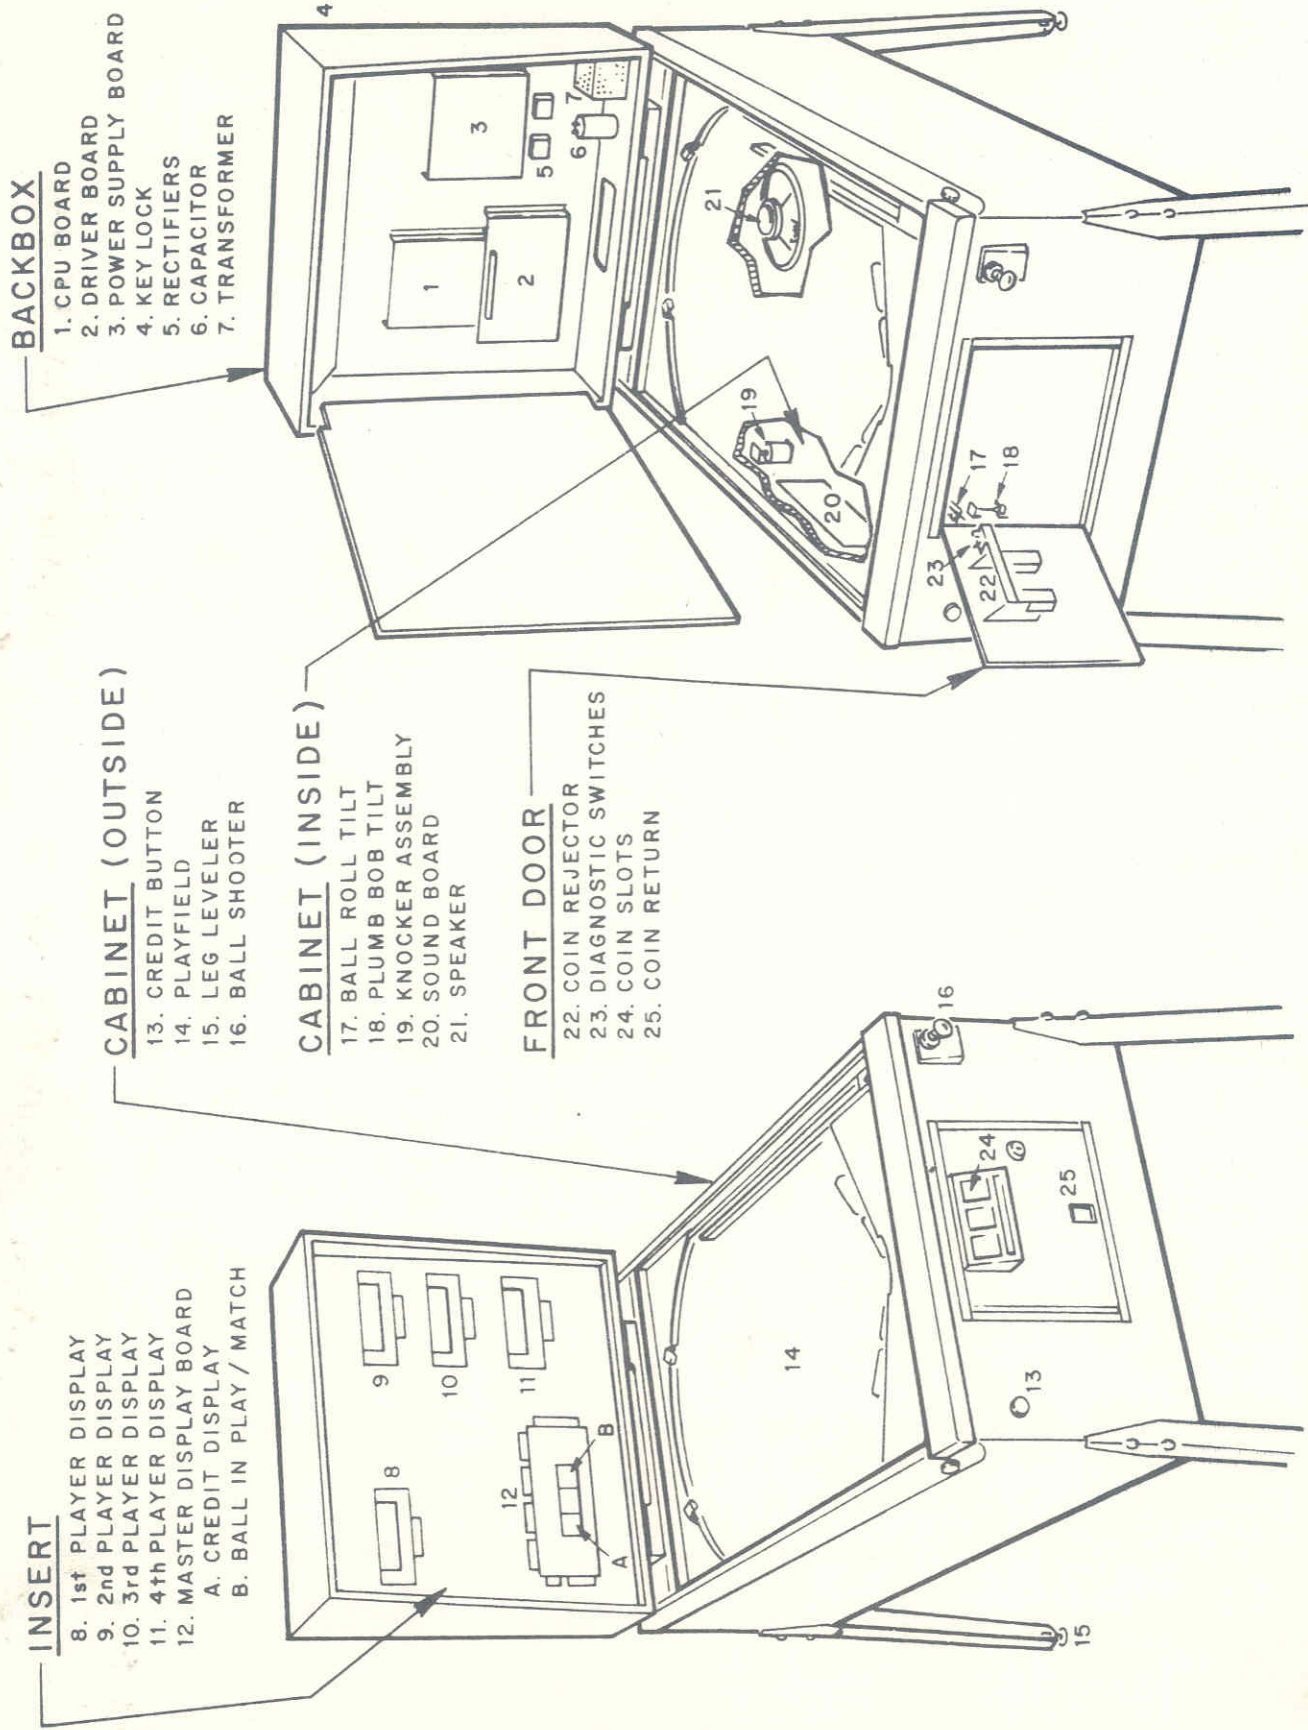

Figure 2. Location of Major Assemblies
2. Push on all connectors attached to the CPU Board (Figure 2 - No. 1) to make sure they are firmly seated.
3. Push on all connectors attached to the Driver Board (Figure 2 - No. 2) to make sure they are firmly seated.
4. Push on all connectors attached to the Power Supply Board (Figure 2 - No. 3) to make sure they are firmly seated.
5. Check the connection on both bridge rectifiers (Figure 2 - No. 5) and the filter capacitor (Figure 2 - No. 6).
6. Push on all connectors attached to the Master Display Board (Figure 2 - No. 12) and the four individual player displays (Figure 2 - Nos. 8, 9, 10, and 11).
12. Push on all the connectors attached to the Sound Board (Figure 2-No.20)
- b. Plumb Bob and Ball Roll tilts (Figure 2 Nos. 18 and 17).
2. If the game comes on with the number of credits display (Figure 2 - No. 12A) showing 04, the ball in play display (Figure 2 - No. 12B) showing 00, and the player 1 display showing the PROM identification and revision number, turn the game OFF and then ON again. The game should now come up in the game over mode.